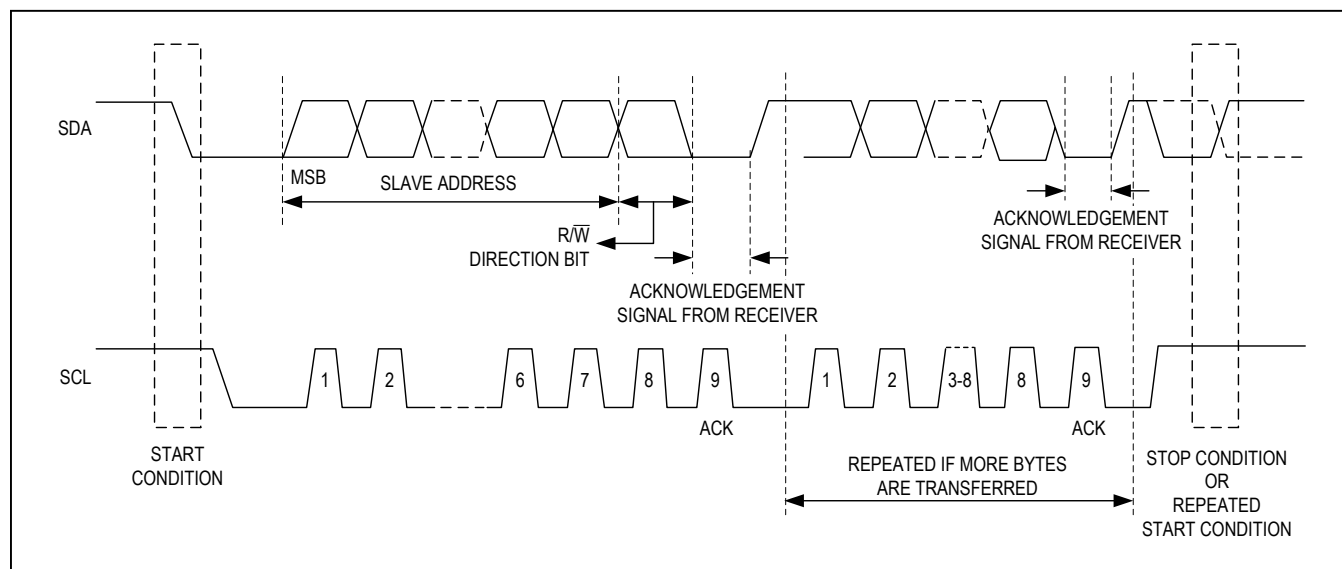

Figure 2. Data Transfer on 2-Wire Serial Bus
**Note 10:** See the timing diagram (Figure 2). All timing is referenced to  $0.9V_{DD}$  and  $0.1V_{DD}$ .
The DS1624 supports a bidirectional two-wire bus and data transmission protocol. A device that sends data onto the bus is defined as a transmitter, and a device receiving data as a receiver. The device that controls the message is called a “master.” The devices that are controlled by the master are “slaves.” The bus must be controlled by a master device which generates the serial clock (SCL), controls the bus access, and generates the START and STOP conditions. The DS1624 operates as a slave on the two-wire bus. Connections to the bus are made via the open-drain I/O lines SDA and SCL. The following bus protocol has been defined (see Figure 2):
Figure 2 details how data transfer is accomplished on the two-wire bus. Depending upon the state of the R/W bit, two types of data transfer are possible: